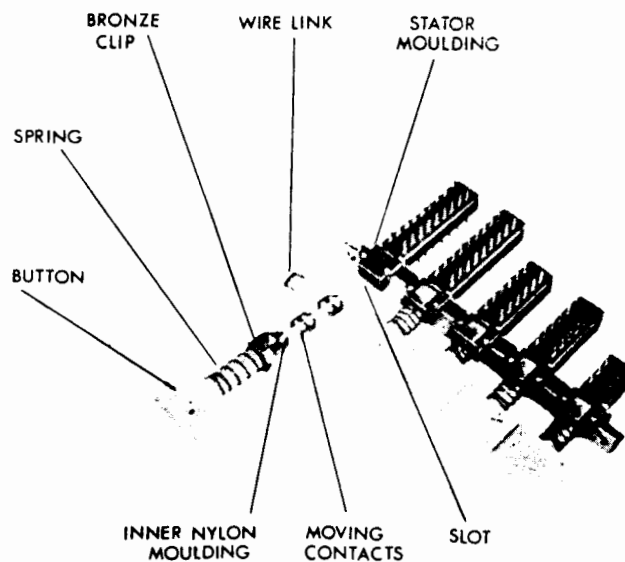

Fig. 1 Dismantling the push buttons
**Pushbutton Mechanisms** (See Fig. 1)